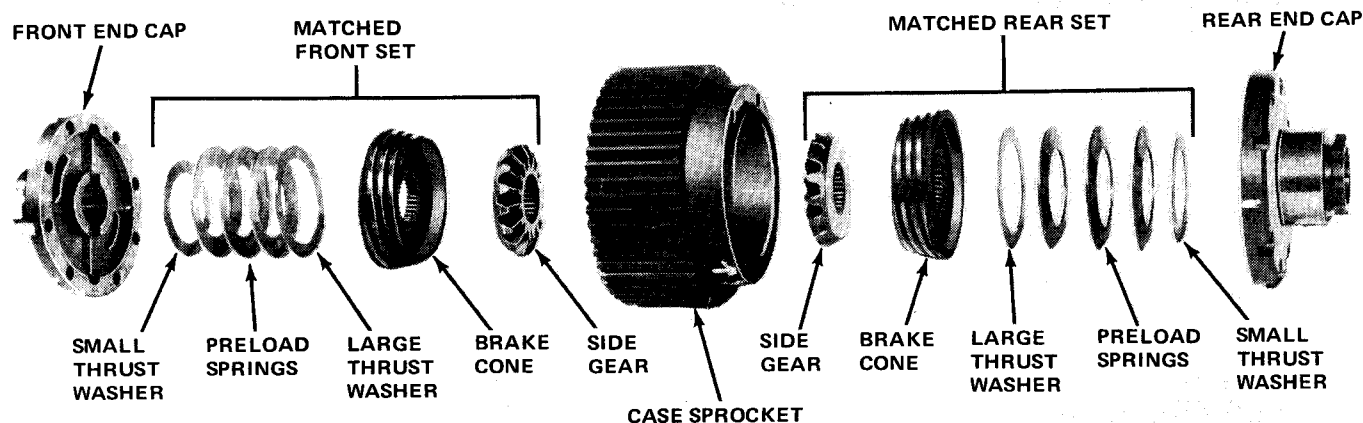

Fig. 8-49 Differential Unit Assembly Sequence
(4) Slide pinion mate gears apart until side gears are pressing washers against case sprocket (fig. 8-49).
(5) Mesh appropriate (front or rear) side gear into pinion mate gears.
(6) Position appropriate brake cone over side gear and into case sprocket.
(7) Place large thrust washer on brake cone.
(8) Place preload springs against thrust washer with concave side of all springs facing brake cone.
(9) Lubricate small thrust washer and position it on appropriate end cap.
(10) Place end cap and thrust washer onto end of case sprocket.